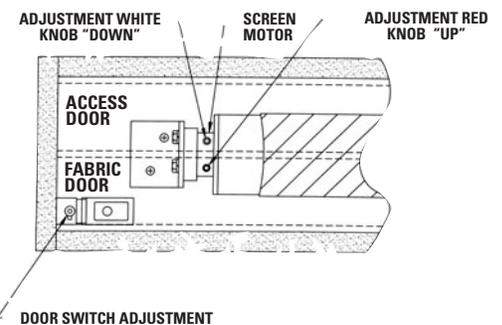

FIGURE 5
2. When the screen stops, turn the white "down" limit knob (Fig.5) one-quarter turn counterclockwise. Test by raising picture surface approximately two feet, then lower again. Repeat until desired picture surface position is attained.
3. Turn the white "down" limit knob (Fig.5) one-quarter turn clockwise. Test by raising picture surface approximately two feet, then lower again. Repeat until desired picture surface position is attained.
If the surface door does not close flush with the access door, it may become necessary to adjust the door limit switch (Fig.5). Turn the adjusting knob (counterclockwise if door is not closing enough; clockwise if door is closing too much) in increments of one-quarter turn until the surface door is flush with the access door.